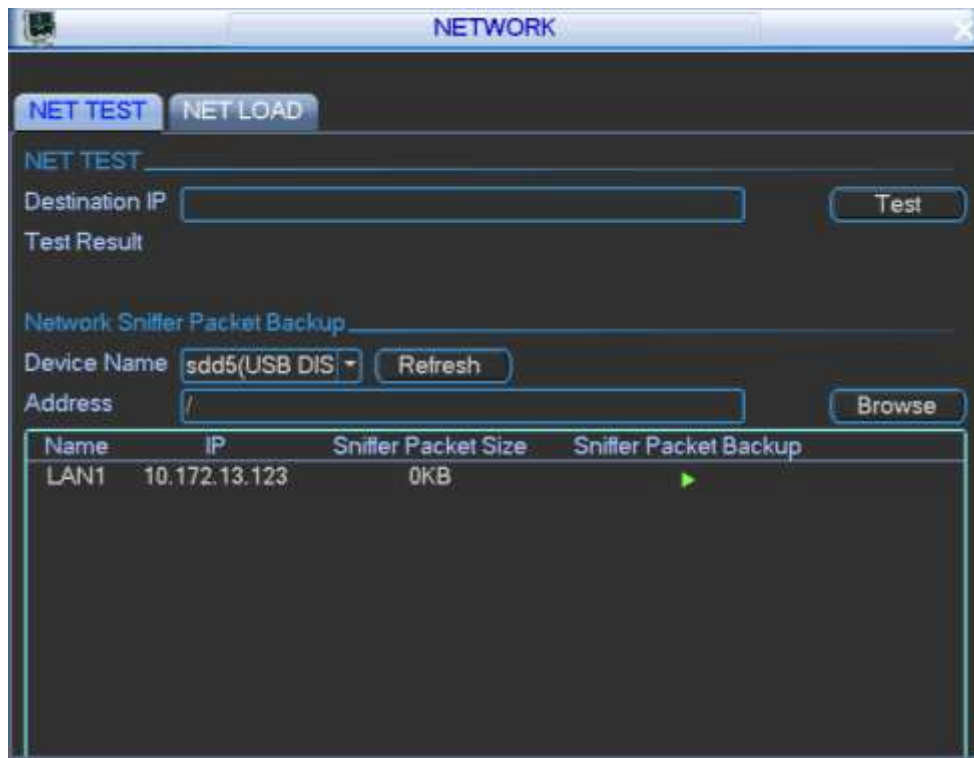

Figure 4-98
Step 1 From main menu->Info-Network->Test, the network test interface is shown as in Figure 4-98.